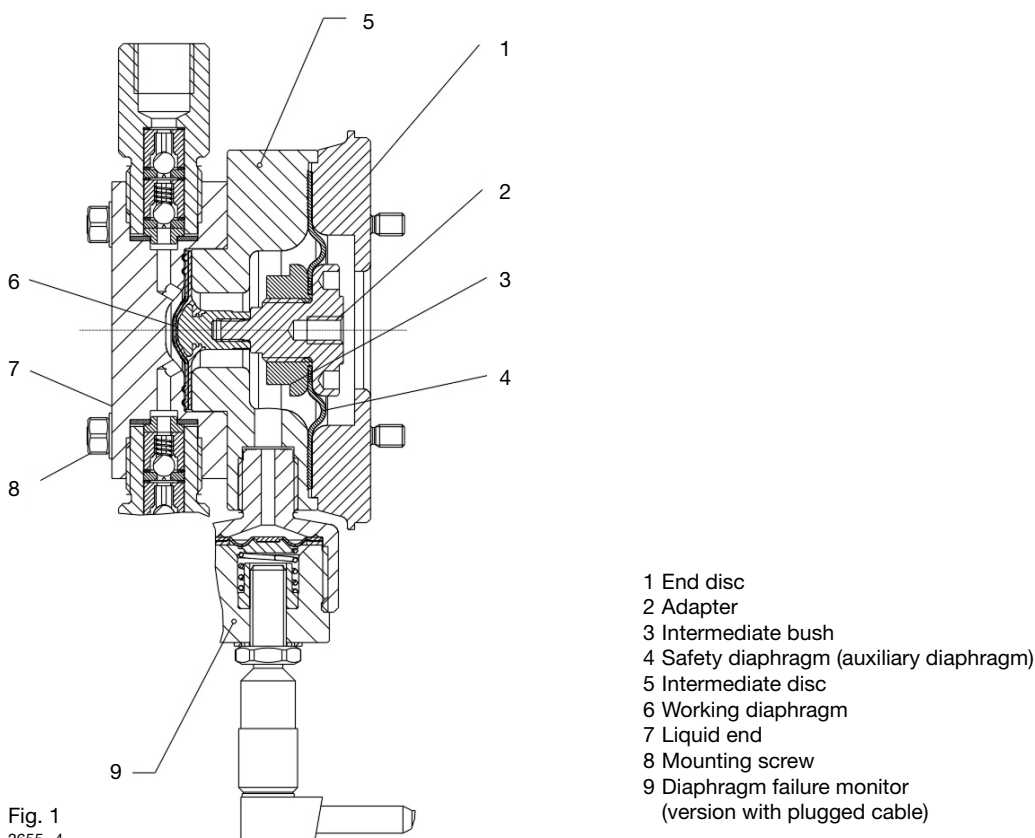

Fig. 1
Instead of only one working diaphragm, the delivery unit of the EXBa with diaphragm failure signalling features an additional diaphragm assy, consisting of the working diaphragm and an additional safety diaphragm, and is equipped with a diaphragm failure sensor (see fig. 1).
- Screw preassembled PTFE safety diaphragm, consisting (2),(3), (4) (see fig. 1) onto set screw as far as it will go. While doing so, secure the drive bush with a metal pin to prevent it turning and use a 24 mm open-ended spanner to tighten the intermediate bush (3) to a torque of 4.5 – 5 Nm.
- Place intermediate disc (5) on end disc.
- Using both hands, secure working diaphragm (6) hand-tight.
- Turn the bushing in the spring housing (diaphragm must not work loose) until the holes in the PTFE safety diaphragm (4) are aligned with those in the spring housing and end disc.
- Preassemble the liquid end (do not yet firmly tighten mounting screws). The intake connection of the liquid end (7) must face vertically downward. The hole in the intermediate disc (5) for the diaphragm failure monitor (9) must point towards the bottom right.
- Mount diaphragm failure monitor (9) together with the PTFE seal: Firmly tighten by hand.